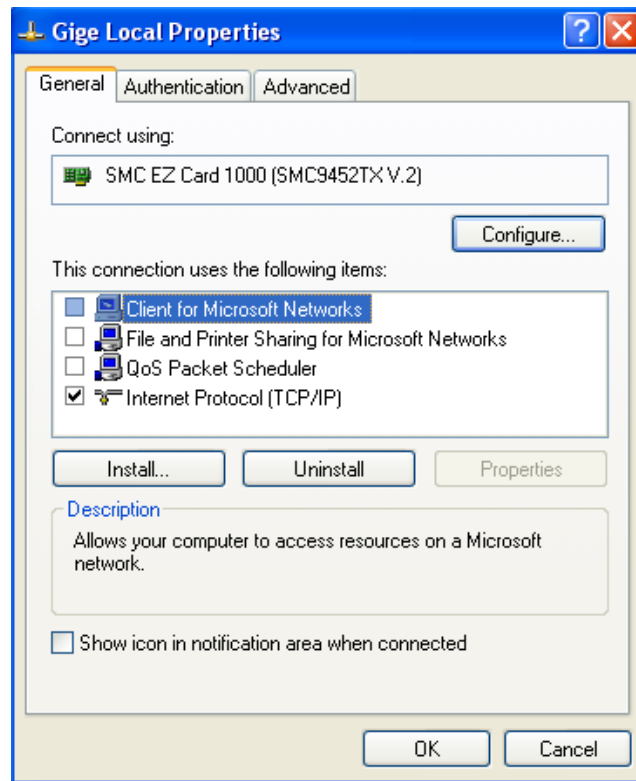

Figure 9. Network card main properties window.
- Open the Network Connections Dialog as follows: From the Windows desktop select **start**, then select **Control Panel**, then double click on the **Network Connections** icon. Double click the relevant network card listed or right-click the relevant network card and select **Properties**. This will open the properties window for your network card. See Figure 9.
- From the main properties dialog as in Figure 9, make sure that only the **Internet Protocol (TCP/IP)** check box is selected then click **OK**. The card is now optimized for use with the AVT camera.